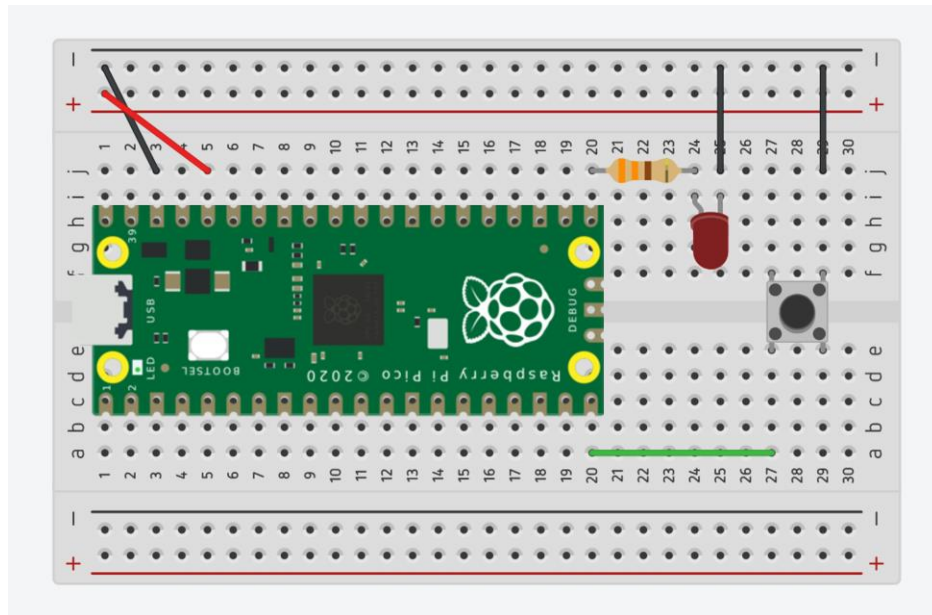

Figure 14. Input circuit breadboard picture
3. Connect a switch to the breadboard as shown in Figure 14, using a different GPIO pin than the one you used for the LED.